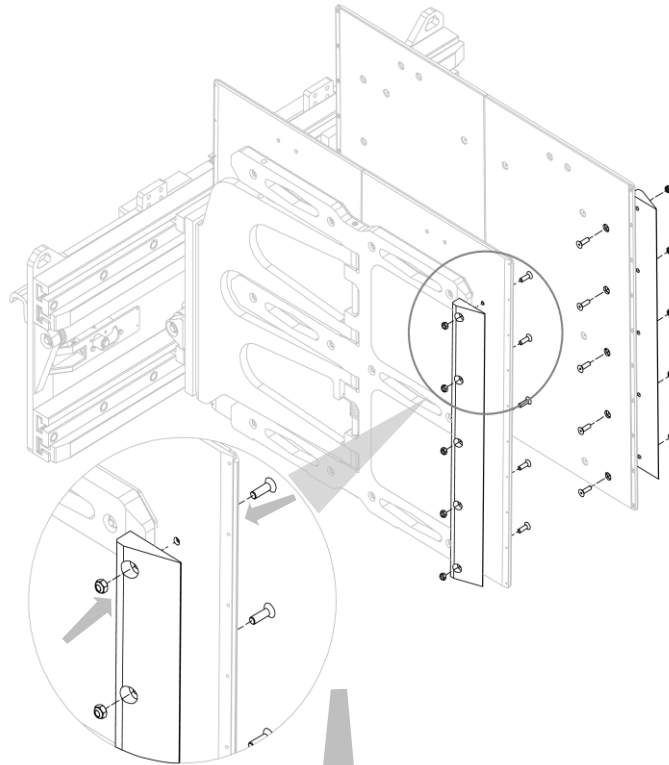
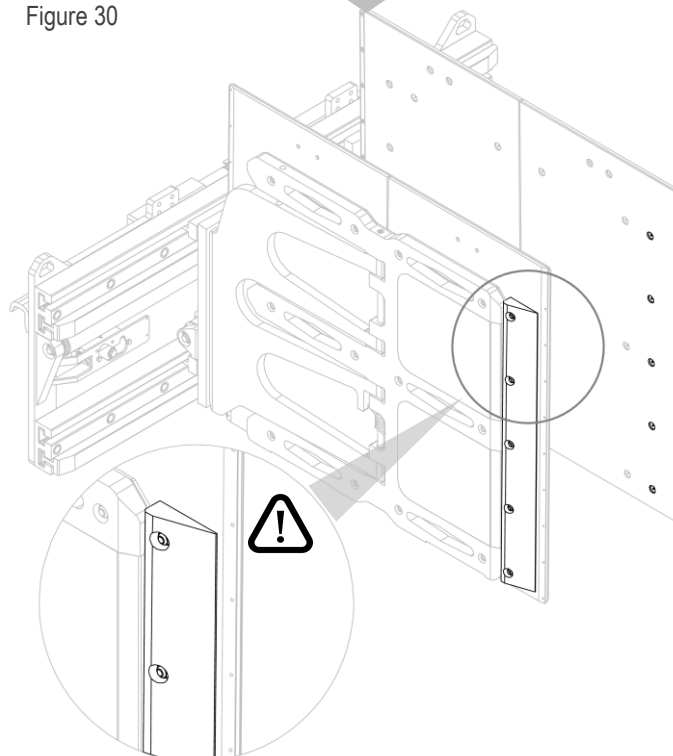

Figure 30
Figure 31
2. Install the Ertalon protective caps (see *Figure 30* and *Figure 31*).